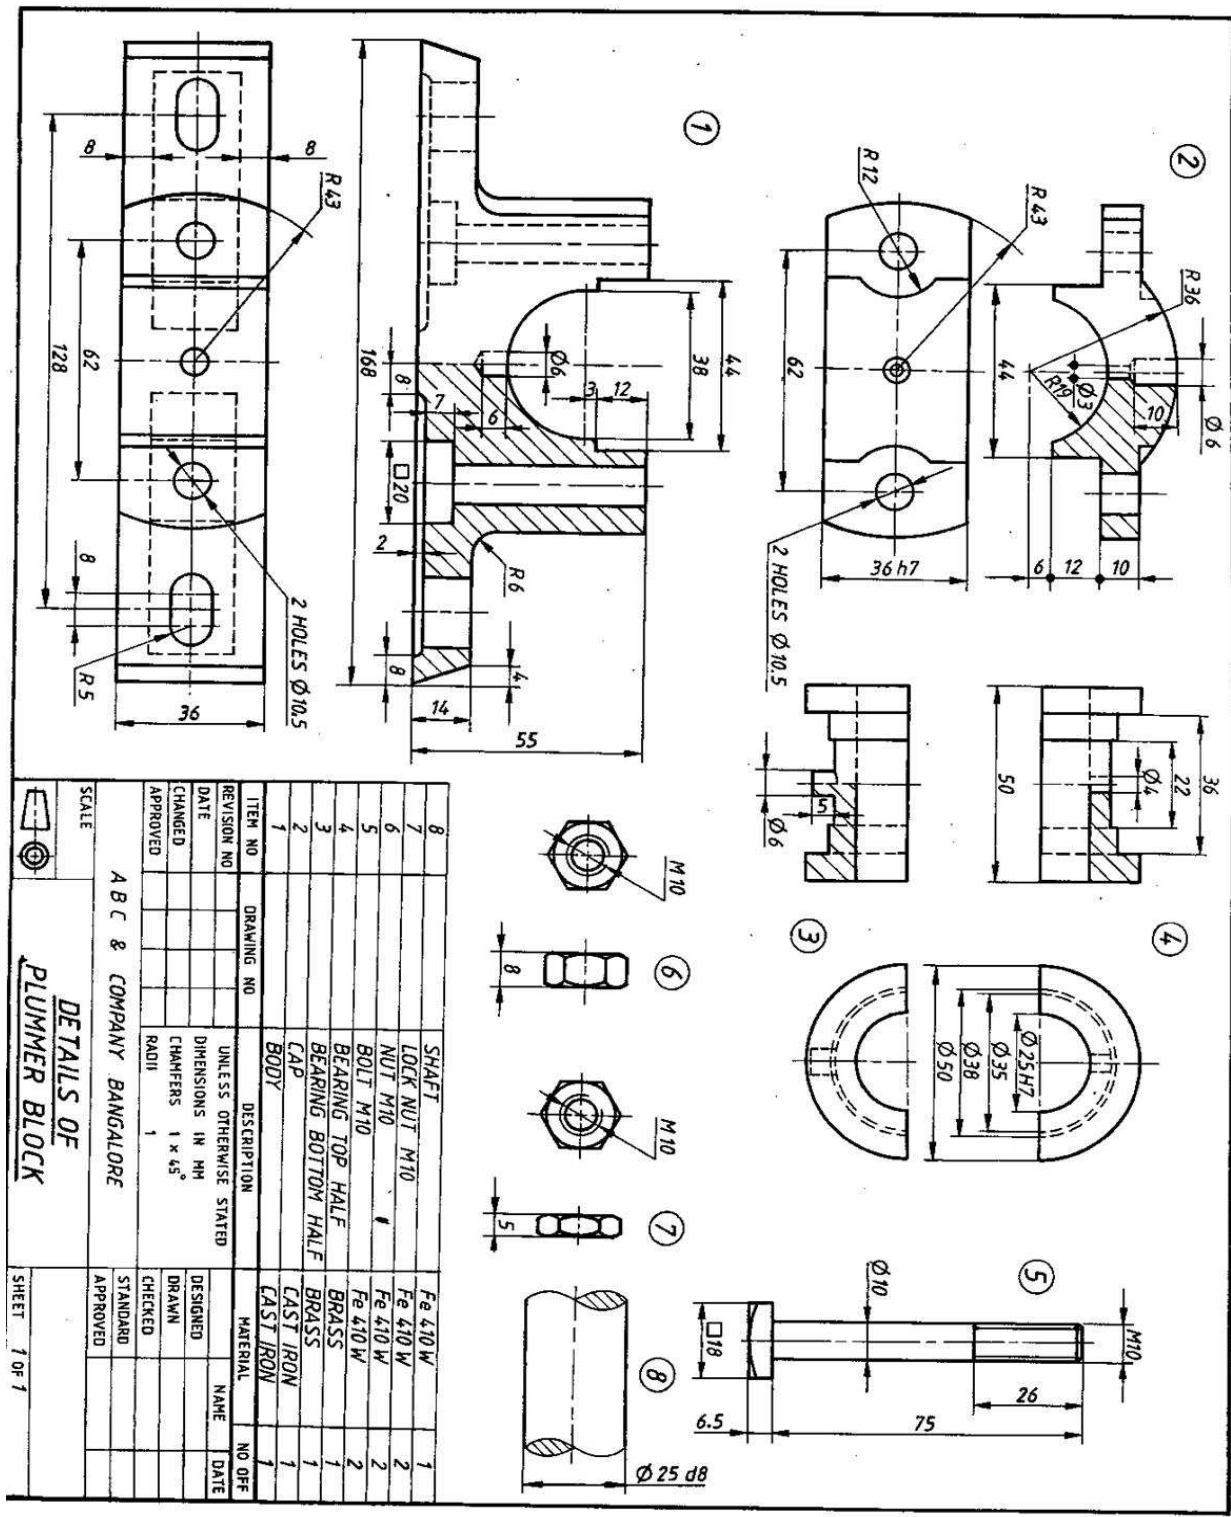

Figure 1 'PLUMMER BLOCK'
5. Details of 'PLUMMER BLOCK' are shown in following Figure 1. Assemble the parts and draw the following views of the assembly.